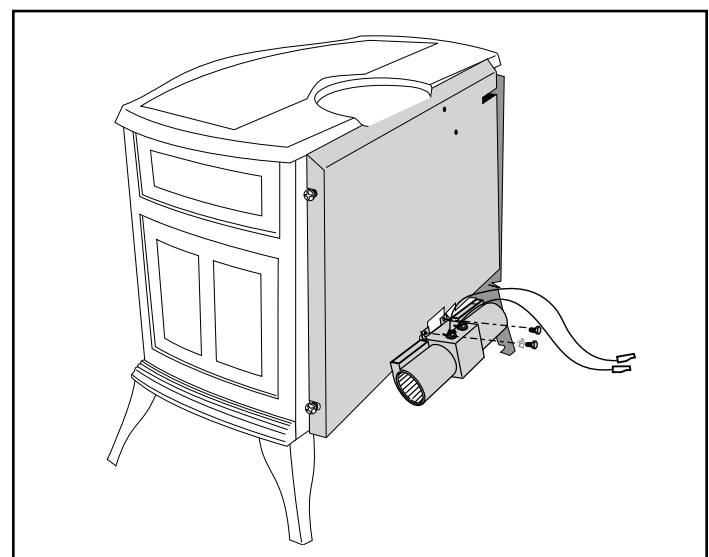

Figure 51 - Secure Blower assembly to lower back of the stove.
- Unfasten the two machine bolts attached to the lower back of the stove (Figure 51).
- Using the two bolts, secure the blower assembly to the rear of the stove (Figure 51).